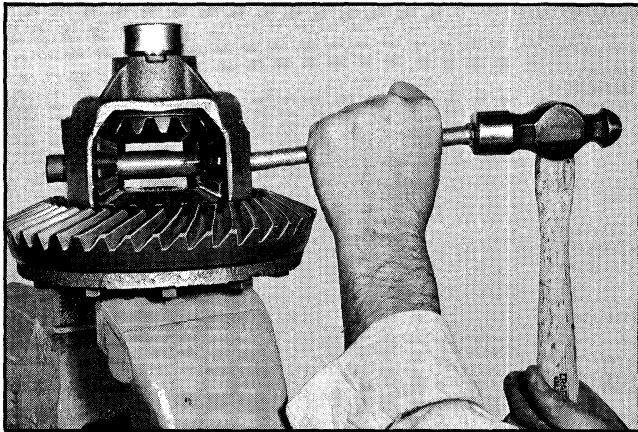

Fig. 4-26 Removing Pinion Shaft
9. Drive pinion shaft out of case, using brass drift (Fig. 4-26).